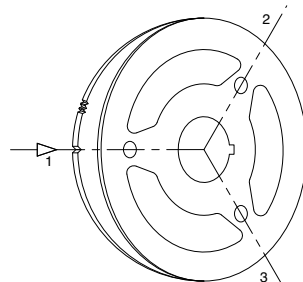

Fig. 24b:
- b. Three cylinder engine (M-SC10): After adjusting the valves of cylinder 1 turn the crankshaft 240 degrees clockwise from the T.D.C of cylinder 1 to the T.D.C of cylinder 3. Position 2 fig. 24b against the notch. Adjust the valves of cylinder 3. Then turn the crankshaft 240 degrees further clockwise to the T.D.C of cylinder 2 and adjust the valves; position 3 fig. 24b against the notch.